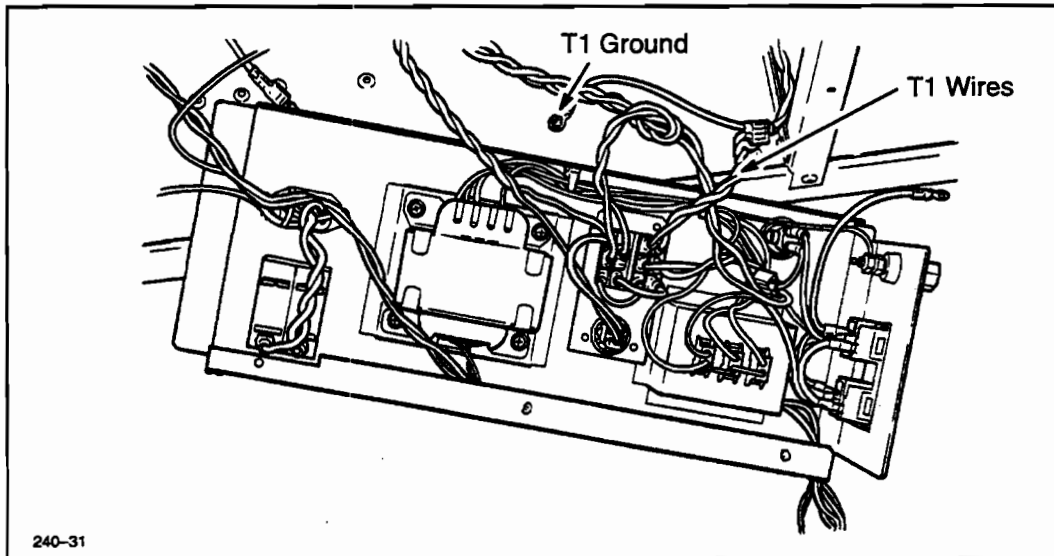

Figure 6-26. Opening the Main Power Panel
14. Carefully lay the power panel face down. See Figure 6-26.
1. Switch the plotter OFF (O) and disconnect the ac power cord and interface cable.
7. Using a #2 Phillips screwdriver, remove the mounting screw that attaches the main transformer ground wire to the chassis. See Figure 6-26.
10. Disconnect the transformer wires from the power panel. See Figure 6-26.